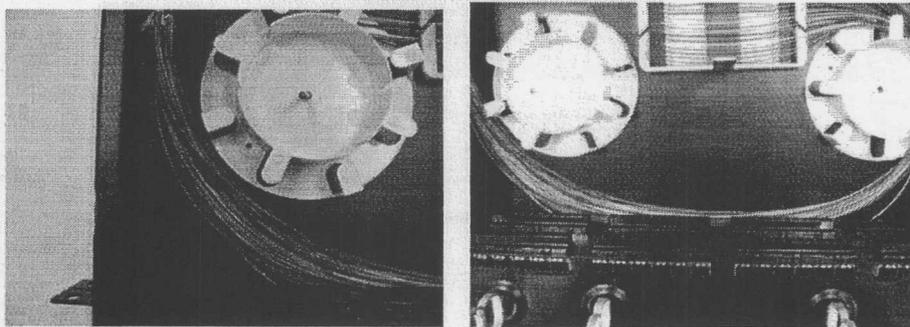

Figure 8: Fiber Entry and General Routing
5. Route fibers from the top row of adapters into the top level of fiber spools and bottom row to bottom fiber spools (**Figure 8**).
6. Dress slack and spare fibers around the storage drum(s) as shown in (**Figure 8**).